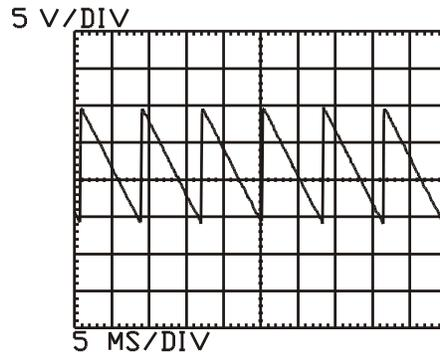

Figure 6-4. Field Voltage Output Waveform
- Check the field voltage with an oscilloscope to verify proper output. (See the current balance firing circuit waveform of Figure 6-4.) _____